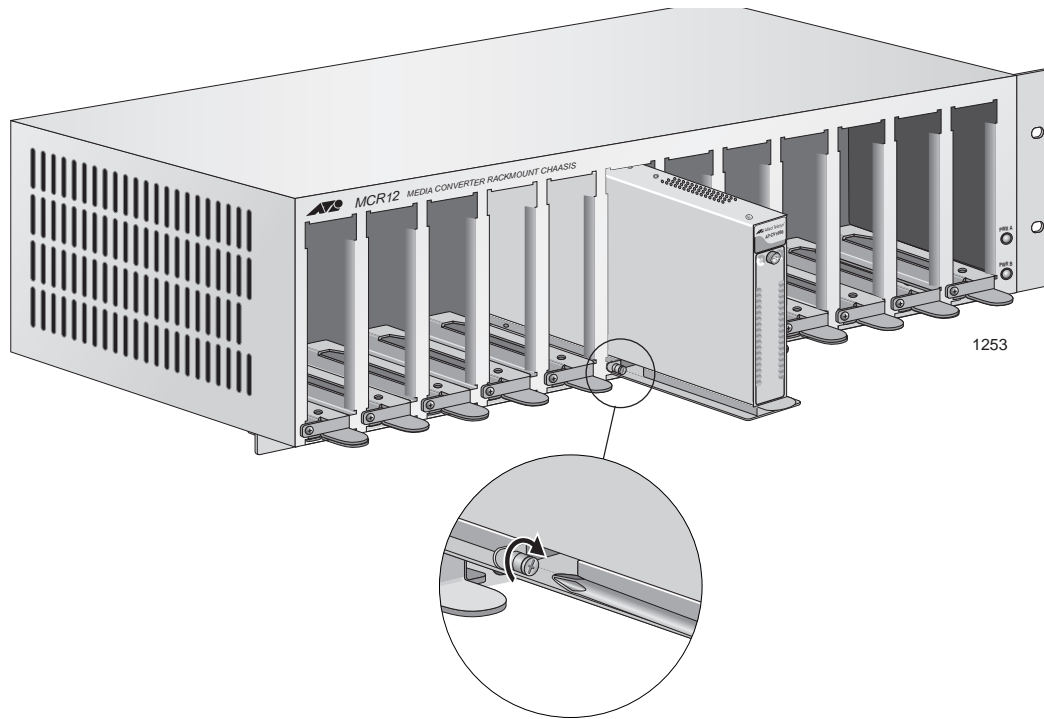

Figure 15. Tightening the Captive Screw on the CVMCR Adapter
7. Tighten the captive screw on the CVMCR adapter to secure the CV1000 in the chassis, as shown in Figure 15.